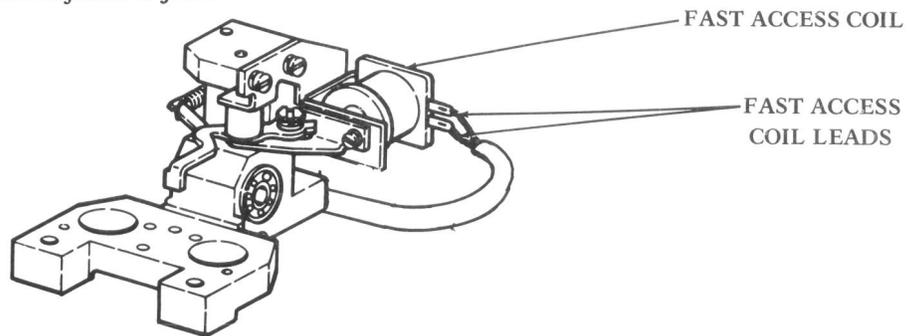

Figure 2 - Magnetic Tape Transport
(1) Remove the tape transport from the cabinet then remove two head cable connector mounting posts (Figure 2). Remove connector. In late design units which have the lamp brightness rheostat assembly, the rheostat assembly is freed upon removal of the head cable connector.
(2) Remove three connectors labeled J211, J212, and J213 from the tape transport service module, also two fast access coil leads.
(3) Loosen lower dust trap mounting screw (TP151722) then lower dust trap and tighten screw.
(4) Remove the reel drive belt (TP337193) from the gear shift pulley.
(5) Remove the counter drive belt (TP337223) from the pulleys on the capstan shaft and counter shaft.